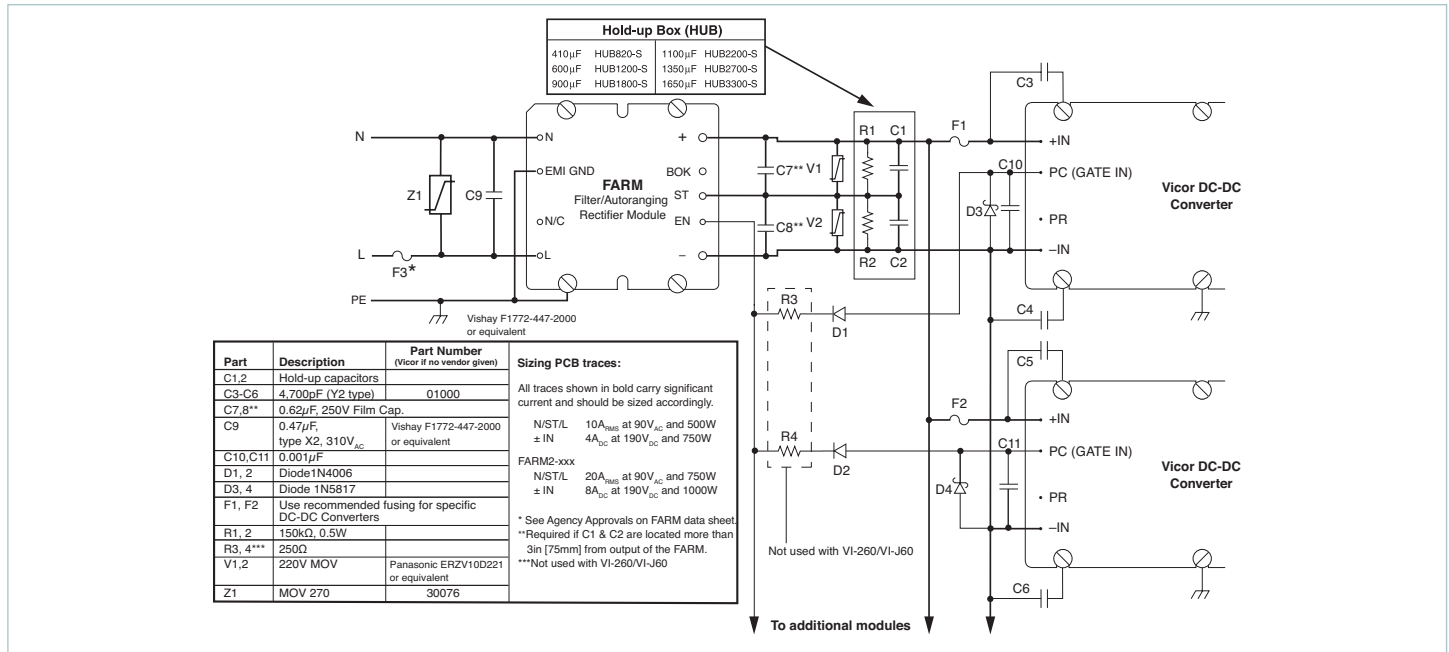

Figure 8.3 — Offline power supply configuration
**Strap (ST) Pin:** In addition to input and output power pin connections, it is necessary to connect the strap pin to the center junction of the series hold-up capacitors (C1, C2, Figure 8.3) for proper (autoranging) operation. Metal-oxide varistors, V1 and V2 provide capacitor protection. The bleeder resistors (R1, R2, Figure 8.3) discharge the hold-up capacitors when power is switched off. Capacitors C7 and C8 are recommended if the hold-up capacitors are located more than 3in [75mm] from the FARM output pins.
It should be noted that the series combination (C1, C2, Figure 8.3) requires each capacitor to be twice the calculated value, but the required voltage rating of each capacitor is reduced to 200V. Allowable ripple voltage on the bus (or ripple current in the capacitors) may define the capacitance requirement. Consideration should be given to converter ripple rejection and resulting output ripple voltage.